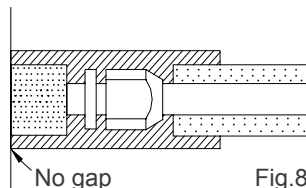

Fig.8
2. The joints of the indoor unit should be wrapped with the insulating material and no gap is allowed on the joint of the indoor unit, as shown in Fig.8.